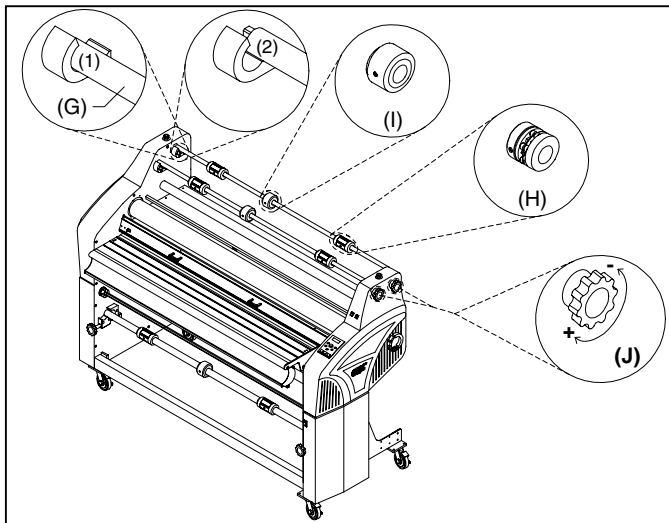

Fig. 16
(Figure 16) The upper unwind/rewind shaft holds the upper film supply or rewind tube on the machine.
(Figure 16) Hold and lock the rolls of film on the shafts to prevent side to side shifting.
(Figure 16) Supports the center of the film core.
**TENSION KNOBS:** (Figure 16) Used to apply brake tension to the upper unwind/rewind shafts. Turning the knob clockwise increases tension and counterclockwise decreases brake tension.